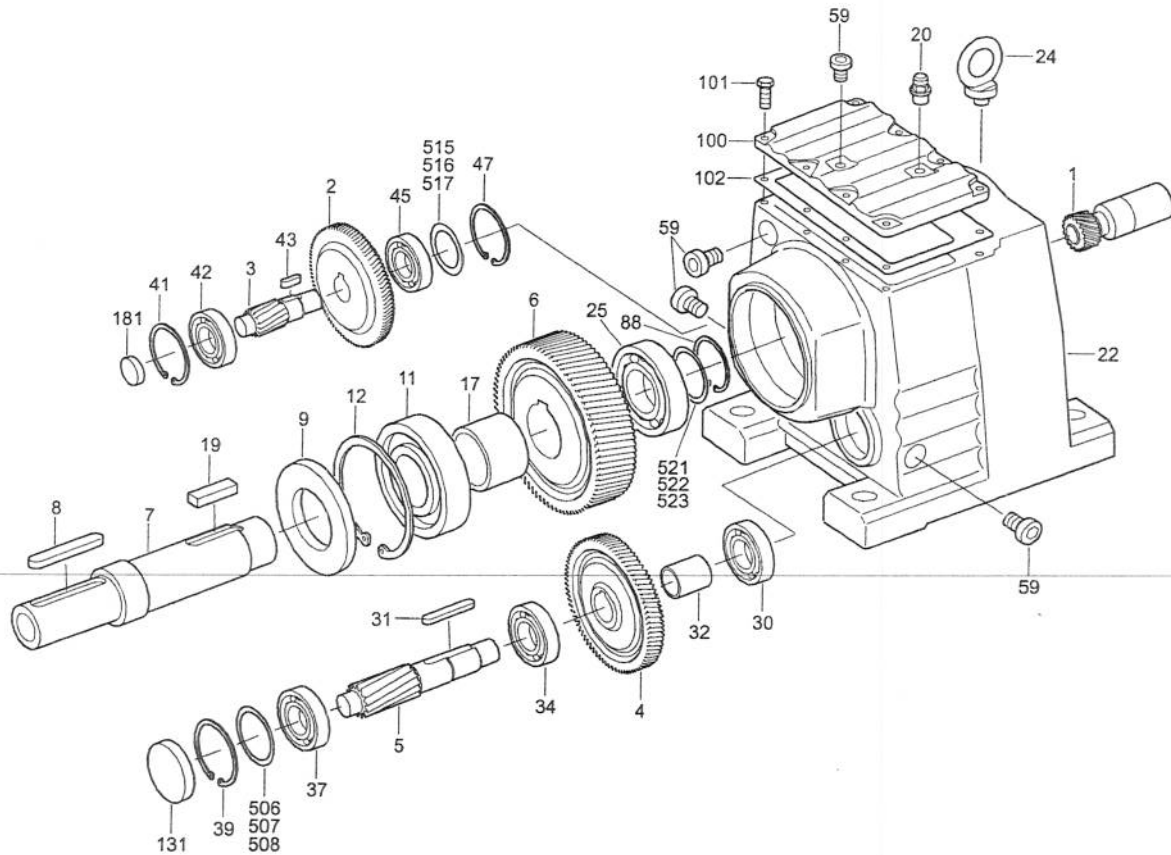

Fig. 1: Basic structure of helical gear units
- Only use a mounting device (see Fig. 1) for installing input and output elements. Use the center bore and the thread on the shaft end for positioning purposes.